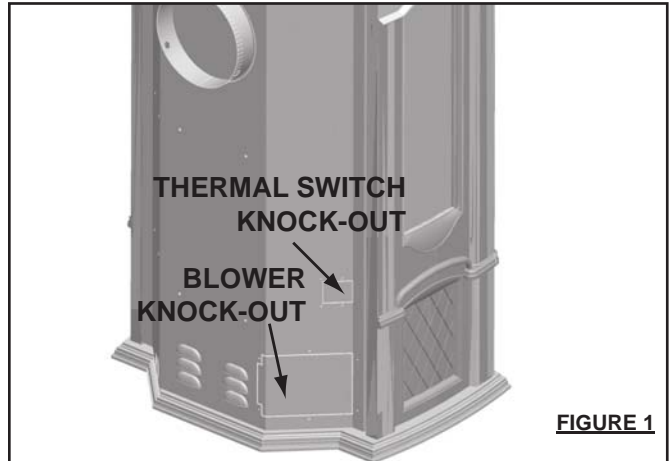

FIGURE 1
1. Remove the blower and thermal disk knock-outs from the rear panel. (FIGURE 1)